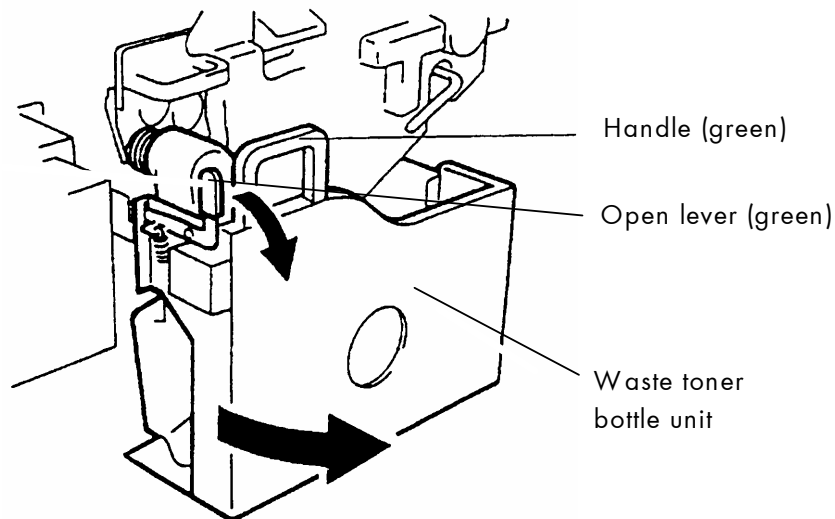

Fig. 7.4.2.a Opening the waste toner bottle unit
3. Swivel the lever of the transport unit to the left (as shown in figure 7.4.2.b).